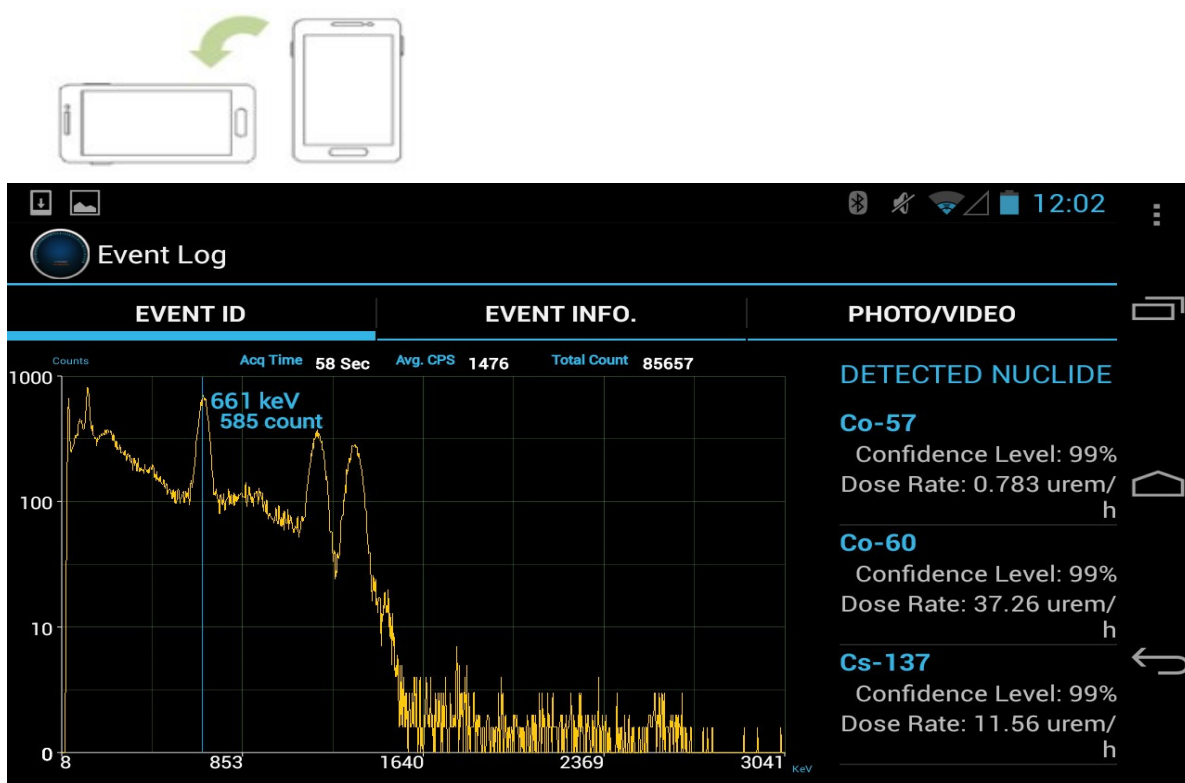

Figure 4.21. Event Analysis screen
2. Rotate the smartphone 90° **counter-clockwise** (Figure 4.21) to display the Event Analysis screen